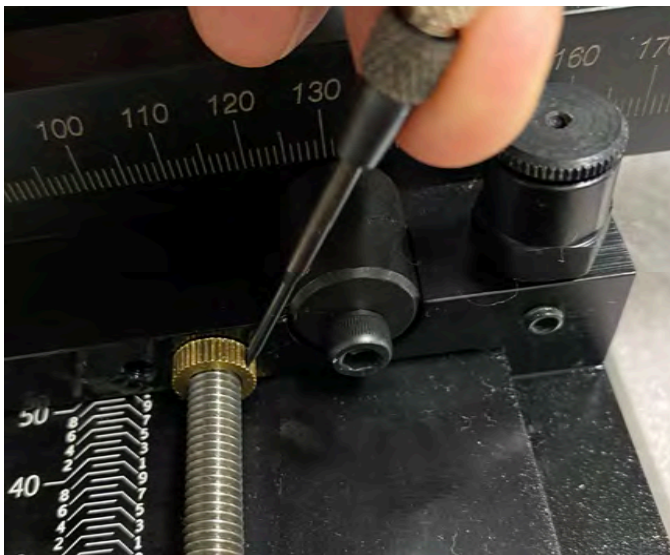

FIGURE 5
E. Now thread out the anti-backlash nut away from the saddle. If it is too tight to turn by hand, use a small straight blade screwdriver, insert the tip of the screwdriver into one of the knurl valleys, and lightly tap the end of the screwdriver until the anti-backlash nut turns (see Figure 5).